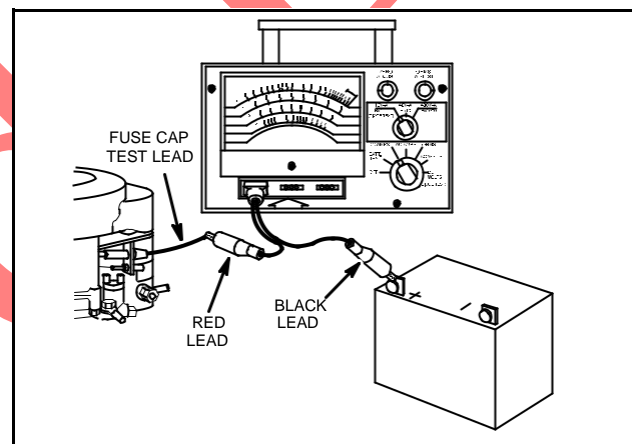

Fig. 747 – TESTING ALTERNATOR OUTPUT
5. Attach RED test lead clip to fuse cap test lead, Fig. 747.